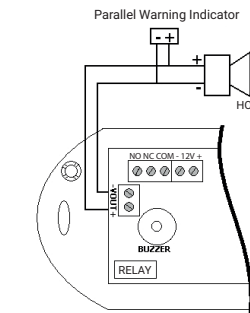

Figure 3
- For using relay outputs (NC&NO), read instruction manual of panel. According to the instruction manual of panel, you may use suitable alarm Resistor (B) or end of line resistor (A), for the relay output connections. Connection Schemas are Figure 2 and Figure 3
- To the (+) end connect Vout (+) terminal, (-) end, connect Vout (-) terminal as shown in the Figure 3.